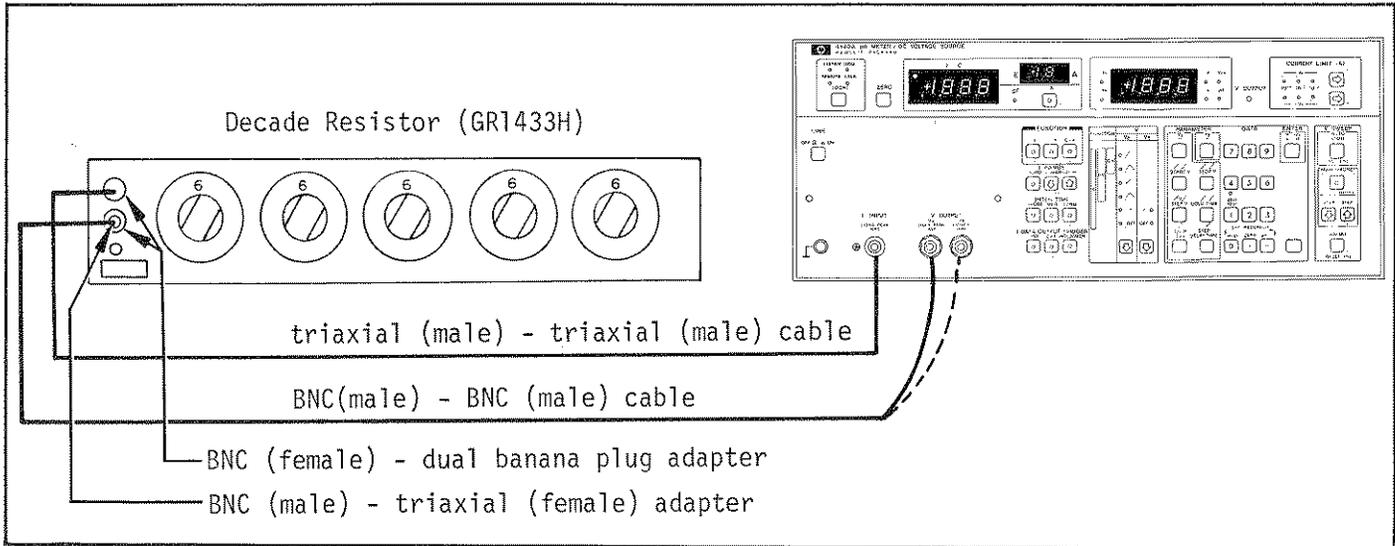

Figure 4-4. Current Limit Test Setup.
1. Connect Decade Resistor between VA OUTPUT and I INPUT connectors of 4140A as shown in Figure 4-4.
- VA = (DC)
- VB = (DC)